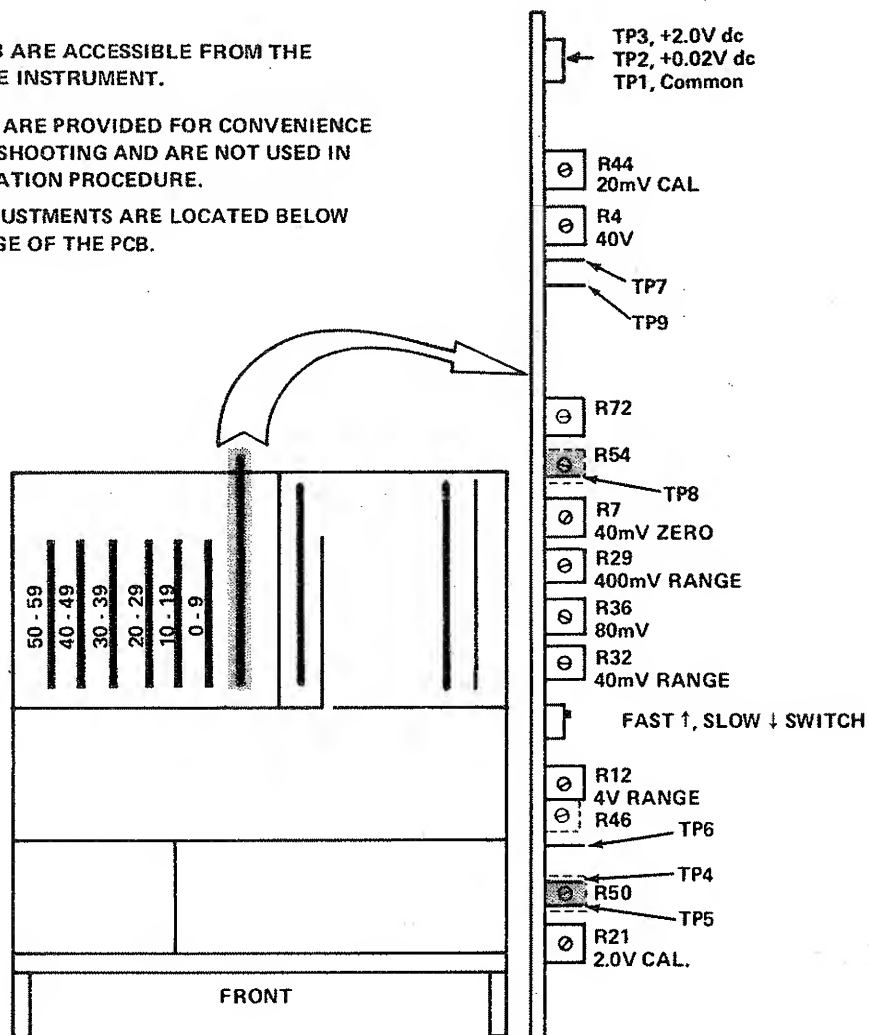

Figure 4-5. A/D Converter Test Point and Adjustment Locations
4-63. Use the following procedure to calibrate the High Performance A/D Converter. Adjustment locations are shown in Figure 4-5.
5. Set the Fast/Slow switch on the A/D Converter to Slow. See Figure 4-5.